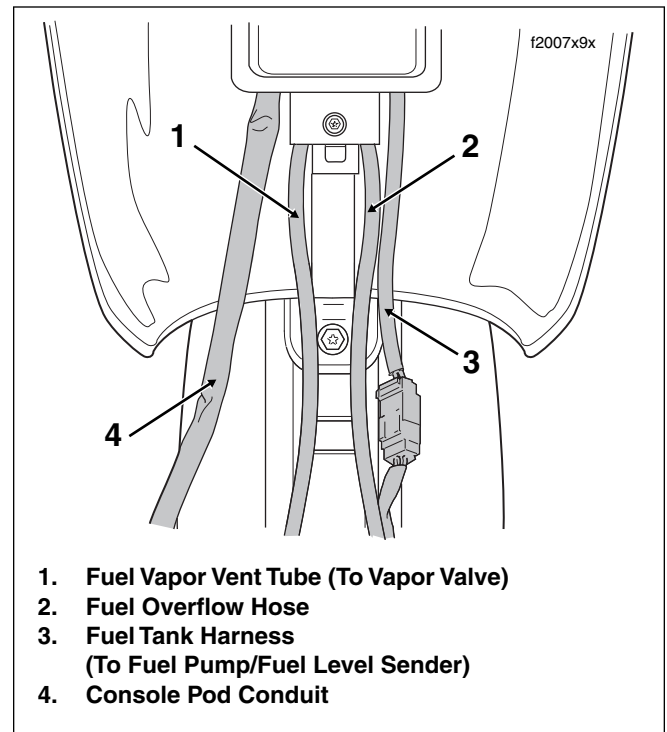

Figure 8-144. Console Pod Cable/Hose Routing (FLHTCU)
2. Remove filler cap. Place console over filler neck onto canopy. Route cables from beneath console as shown in Figure 8-144. Be sure that hoses and wires are not pinched by the console during installation. Reinstall filler cap.